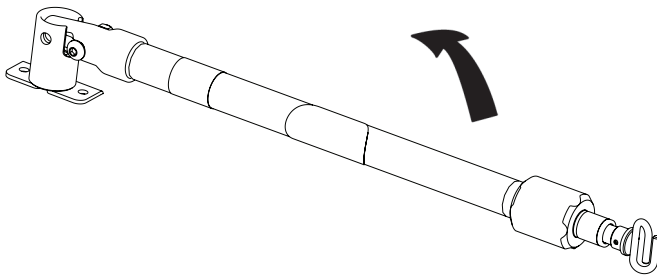

Figure 47: Two-Stage I.V. Pole Storage Position
1. Lift and pivot the pole from the storage position and push down until it is locked into the receptacle (A).
2. To raise the height of the pole, turn the lock actuator (B) counterclockwise and pull up on the telescoping portion (C) of the pole to raise it to the desired height.
3. Turn the lock actuator (B) clockwise to lock the telescoping portion in place.
4. Hang the I.V. bags on the I.V. hook (D).
5. Turn the lock actuator (B) counterclockwise and slide section (C) into the bottom tube.
6. Turn the lock actuator (B) clockwise to tighten.
7. Lift up and pivot the pole down into the storage position (see Figure 47).